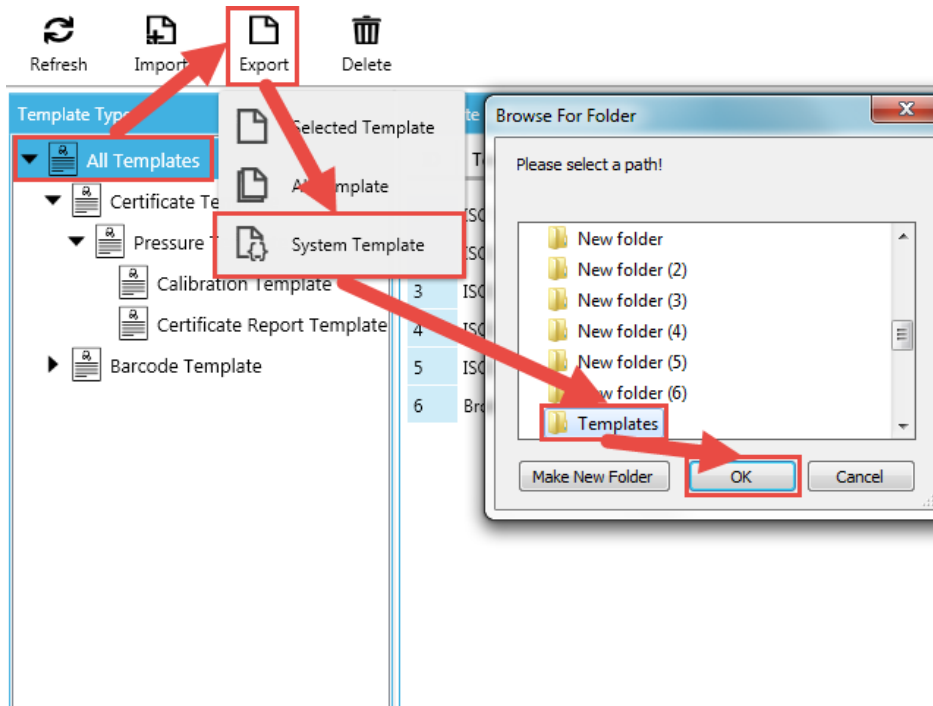

Figure 2
(1) Get the preset template, as shown in Figure2